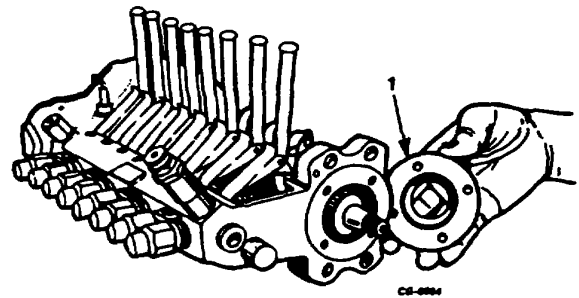

Figure 21. Removing Front Bearing Retainer
9. Using large screwdriver remove the four flat head screws from camshaft front bearing retainer and remove retainer (Figure 21).